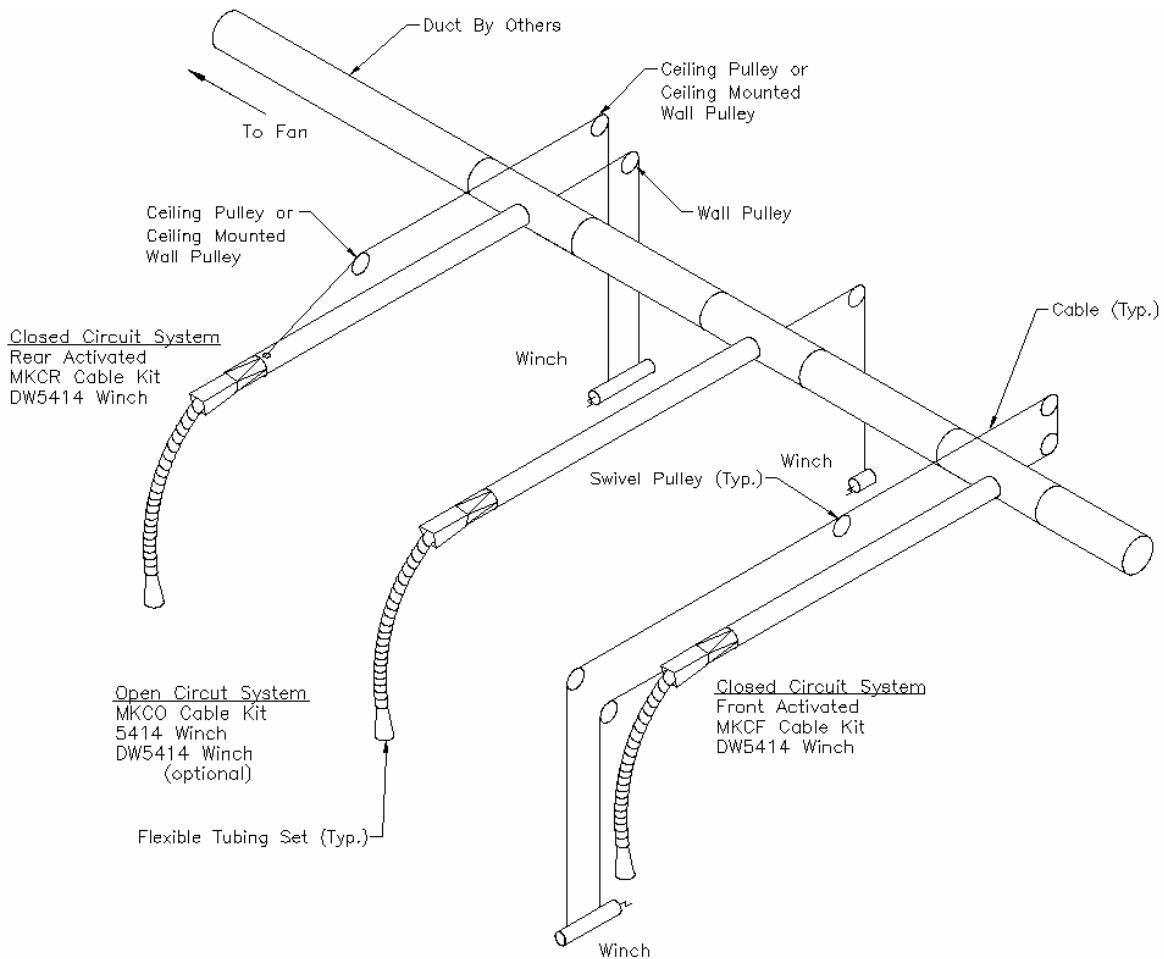
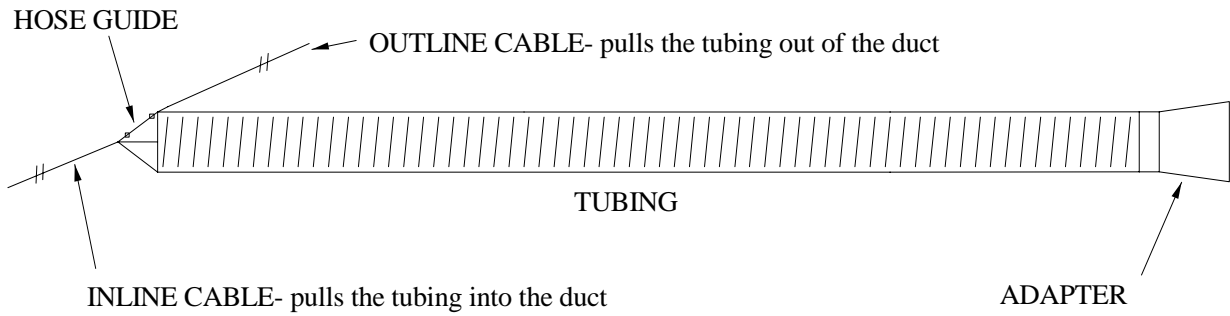

FIG 1: OVERHEAD DISAPPEARING LAYOUT OPTIONS
FIG 4: CABLE TO TUBING ASSEMBLY LAYOUT
1. Determine the type of system required from FIG 1. The figure illustrates the placement of pulleys, winches and cables.
10. Attach cable(s) to the flexible tubing as shown in FIG 4 with the clamps provided (2 clamps per cable). Route the cable(s) to the corresponding pulleys shown in FIG 1 and attach to the wall cleat or winch.
- 2) Attach cables to the flexible tubing hose guide as shown in FIG 4 with cable clamps provided.